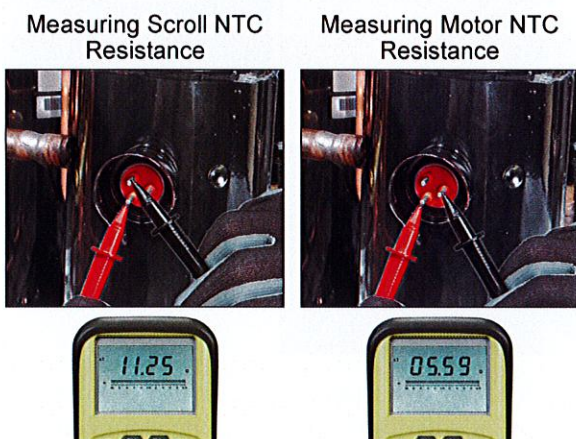

Figure 13
If the input current to the drive is less than the full load amp rating but the system continues to have an overtemperature fault, remove the molded plug connecting the 4-pin plug to the compressor and measure the resistance in the thermistor circuit at the compressor pins, refer to Figure 13. If the resistance is zero (0), the thermistor circuit is shorted and the compressor must be replaced. If the resistance at the compressor pins is not zero (0), the molded plug is shorted and requires replacement. Replace the molded plug wire assembly carefully, making sure that the routing of the wires is exactly like the routing of the wires of the original assembly.